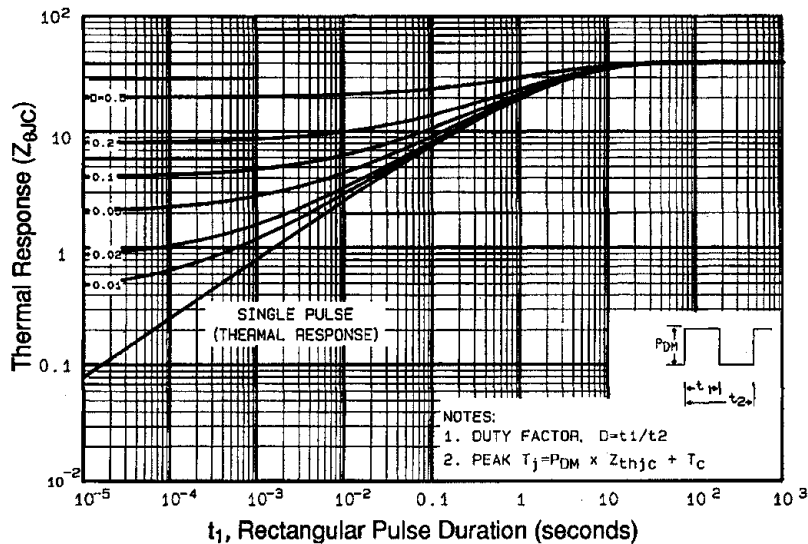

Fig 11. Maximum Effective Transient Thermal Impedance, Junction-to-Case
① Repetitive rating; pulse width limited by max. junction temperature. (See fig. 11)
② $V_{DD} = 25V$, starting $T_J = 25^\circ\text{C}$, $L = 16\text{ mH}$